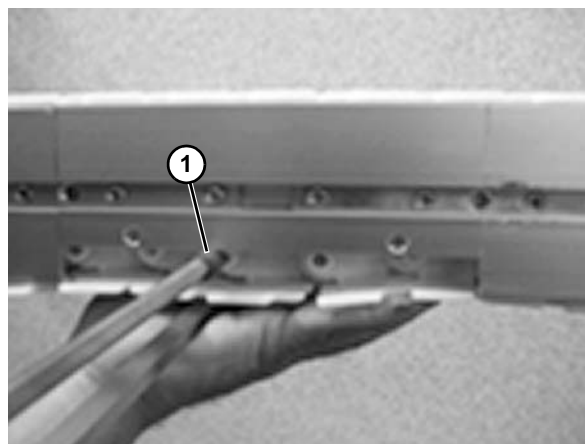

Figure 57
4. Remove excess links and use the chain tool (**Figure 57, item 1**) to put the chain back together again.